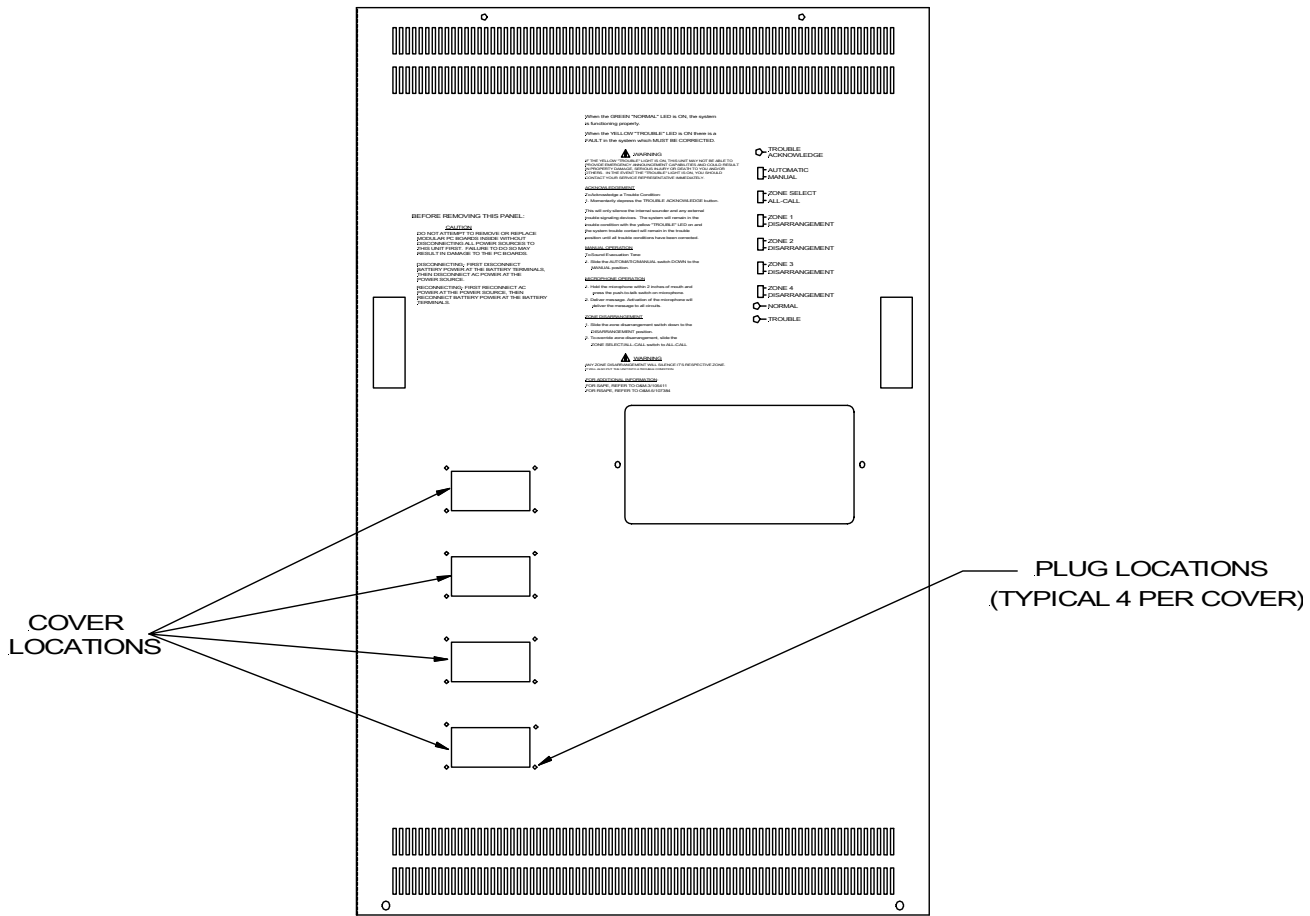

Figure 3:
3. Remove the old hole cover on the SAFEPATH Panel’s Dead Front Panel that corresponds to the location of the new splitter module by removing the 4 hole plugs on the cover. Save the 4 plugs to attach the new cover. (See Figure 3)